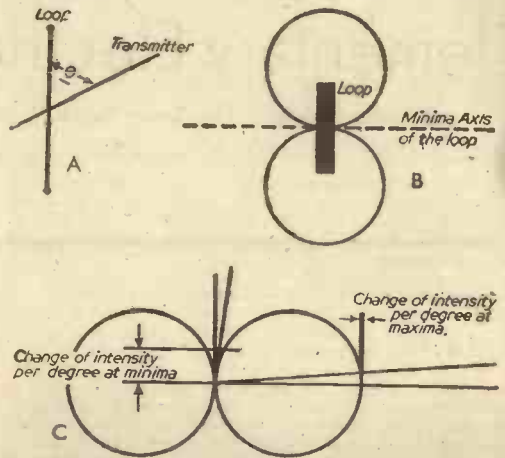

Fig. 100.—"Figure-of-eight" diagram of loop aerial and choice of maxima or minima for greatest discrimination.
where V_m is the voltage across the loop in the (edge-on) maxima positions and θ is the angle between the axis of the loop and a line running through the loop centre and the transmitter, Fig. 100 (A). This relationship gives the "figure-of-eight" polar diagram of Fig. 100 (B).
We must now decide which of the two directional characteristics of the loop will give the greatest discrimination of signal strength per degree when the loop is to be used for aural direction-finding. There will obviously be the minima positions, see Fig. 100 (C). A scale having 60 deg. may now be fitted to the loop in such a way that 0 deg. or 180 deg. are read when the loop is "flat-on" to a station situated along the axis of the loop, Fig. 101.